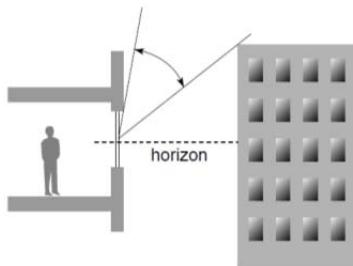

Figure 16: Vertical angle of sky. Source: “A Sequence for Daylighting Design,” J. Lynes, Lighting Research and Technology, 1979.
- **Vertical Angle of Sky.** Estimate the angle, as shown in Figure 16, from the center of the window. Value between 0 and 90. If no obstruction, the vertical angle is 90°.